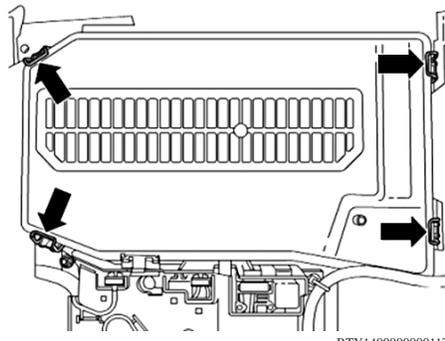

Fig. 5 Battery cover removal
10. **On all models,** fold back carpet, open locks on battery housing (arrows) and remove cover, Fig. 5.
7. Install cover and close locks on battery housing (arrows), Fig. 5.